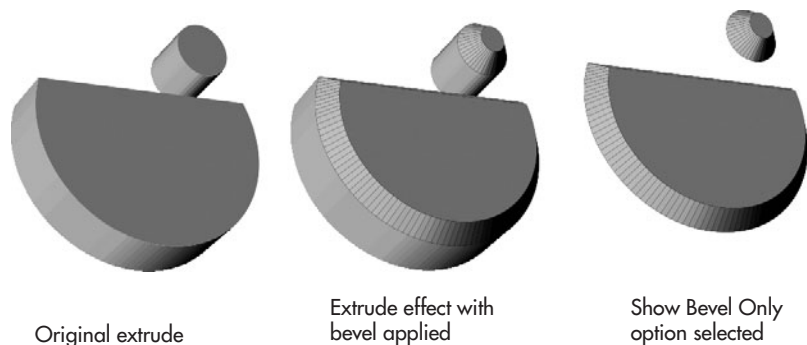

FIGURE 19-8 The shape of a bevel is determined by Bevel Depth and Bevel Angle.
- **Setting bevel shapes** The Bevel Depth and Bevel Angle options can be defined by entering values in the corresponding fields on the Bevel pop-up on the property bar; you can also click-drag in the proxy window to interactively define the angle and depth. Bevel Depth can be set between 0.001 inch and 1,980 inches. Bevel Angle may be set to a maximum of 89°. Shallow angles of less than 30° often provide the best visual results. At significant depths, you might get self-intersections in the bevel because control objects that have sharp curves along the path segments are difficult for the bevel effect to reconcile mathematically. If you see a “bad” self-intersecting area, try reducing the Bevel Depth and/or changing the angle. Figure 19-8 shows the results of applying a bevel effect with and without an extrude effect involved.